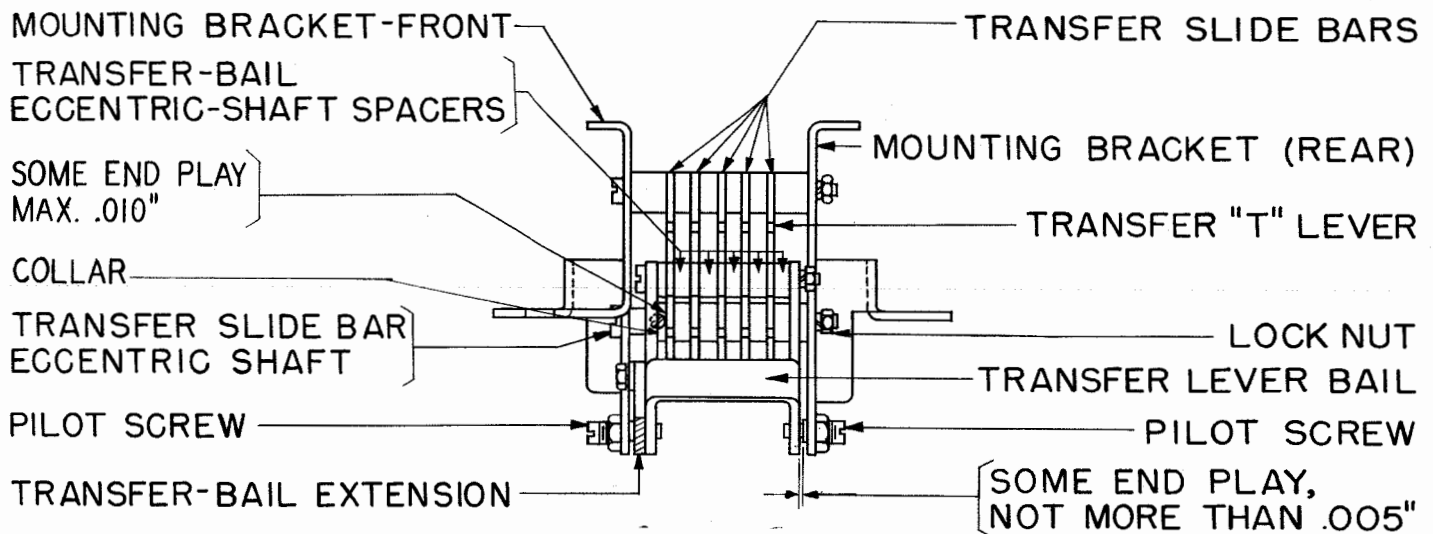

Figure 57
2.120 Lower Transfer-slide-bar Eccentric-shaft (Old-style Bracket): (See also 2.119.) The high part of the eccentric shaft shall extend downward. See Figure 57.
2.121 Lower Transfer-slide-bar Eccentric-shaft Collar (Old-style Bracket): (See also 2.119.) The transfer slide bars shall be perpendicular to their shafts, and move freely in their guides. There shall be some endplay, not more than that indicated in Figure 57, between the set-collar on the lower eccentric-shaft and the adjacent slide bar when the play is taken up in a direction away from the collar.
2.122 Transfer-lever Bail (Old-style Bracket): (See also 2.119.) With the bail spring unhooked, the transfer levers shall line up centrally with their associated transfer-slide bars, and the bail shall rotate freely on its bearing screws with some endplay, not more than that indicated in Figure 57.